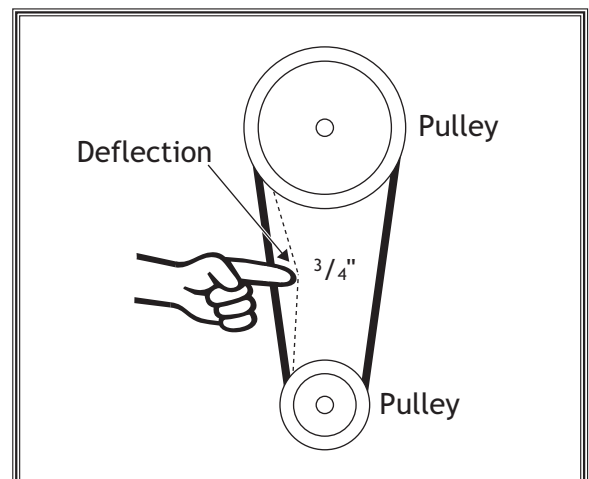

Figure 48. Belt deflection.
3. Turn the adjustment nut up or down until the V-belts deflect $\frac{3}{4}$ " off of center when pushed with your finger, as shown in Figure 48.